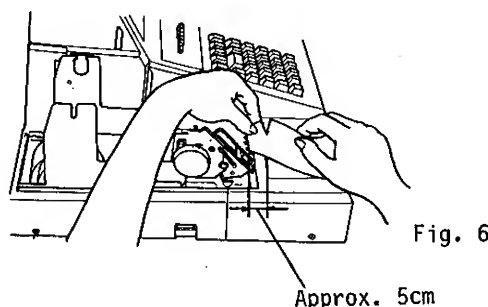

Fig. 6
7. When all the folded portion comes out, tear off the unnecessary part with an appropriate end length remaining (approx. 5cm or 2 inches). (Fig. 6)